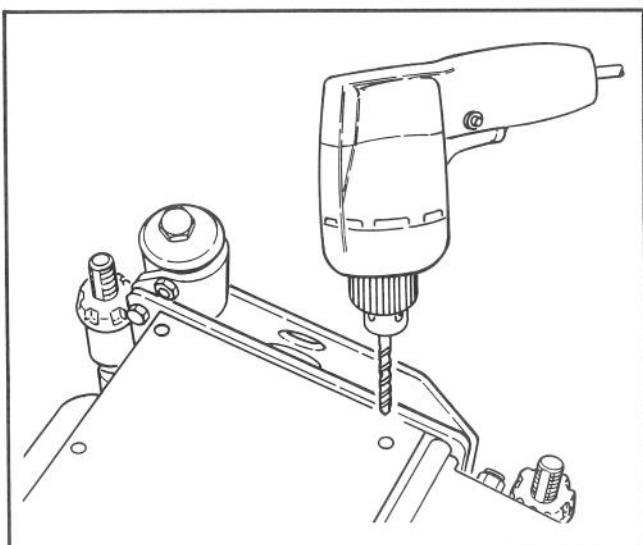

Figure 4
D. Mount one weight to each cutting unit guard (Fig. 4) on the #1, #2, & #3 cutting units. Guards are located at the opposite end of each cutting unit drive housing. Use 1/2" carriage bolts provided with weights (Fig. 4).